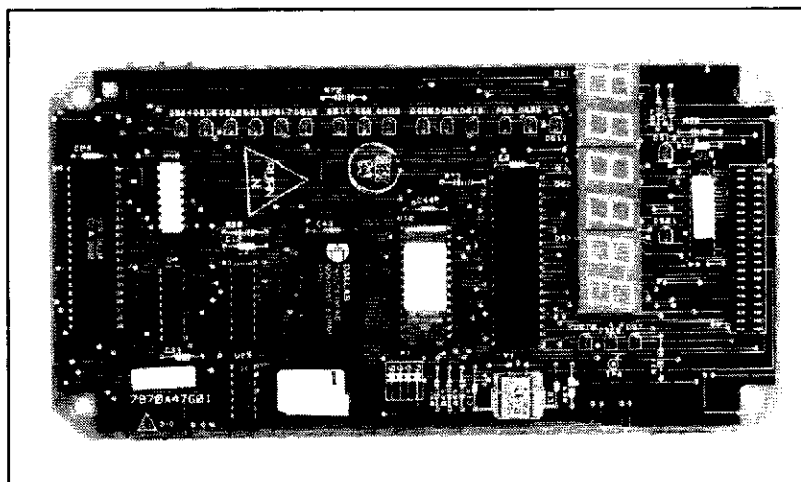

Fig. 5 IQ Data Plus II Front Board
16. Place board on table oriented so that the displays are on the right and the row of LEDs is on the farthest side of the board (See Figure 5).
EPROM is aligned with the notch marked on the circuit board. The writing on the EPROM and the U12 designator on the board should both be in the same orientation (See Figure 5).